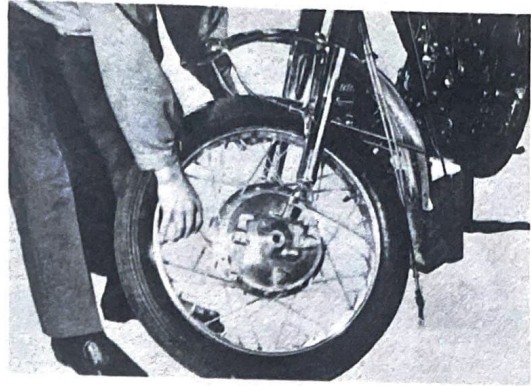

Fig. 5-1-10
- 6) Raise the front of the chassis, and remove the wheel assembly. (Fig. 5-1-10)